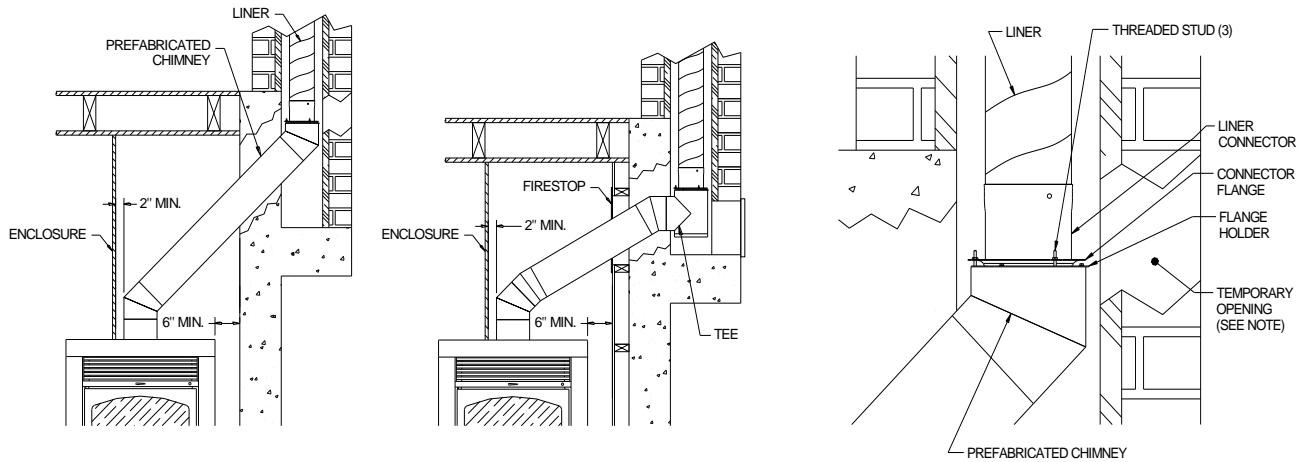

Figure 20 – Connection to a Masonry Chimney
- Elbows can be used to deviate and enter the masonry chimney when possible as shown in figure 20.